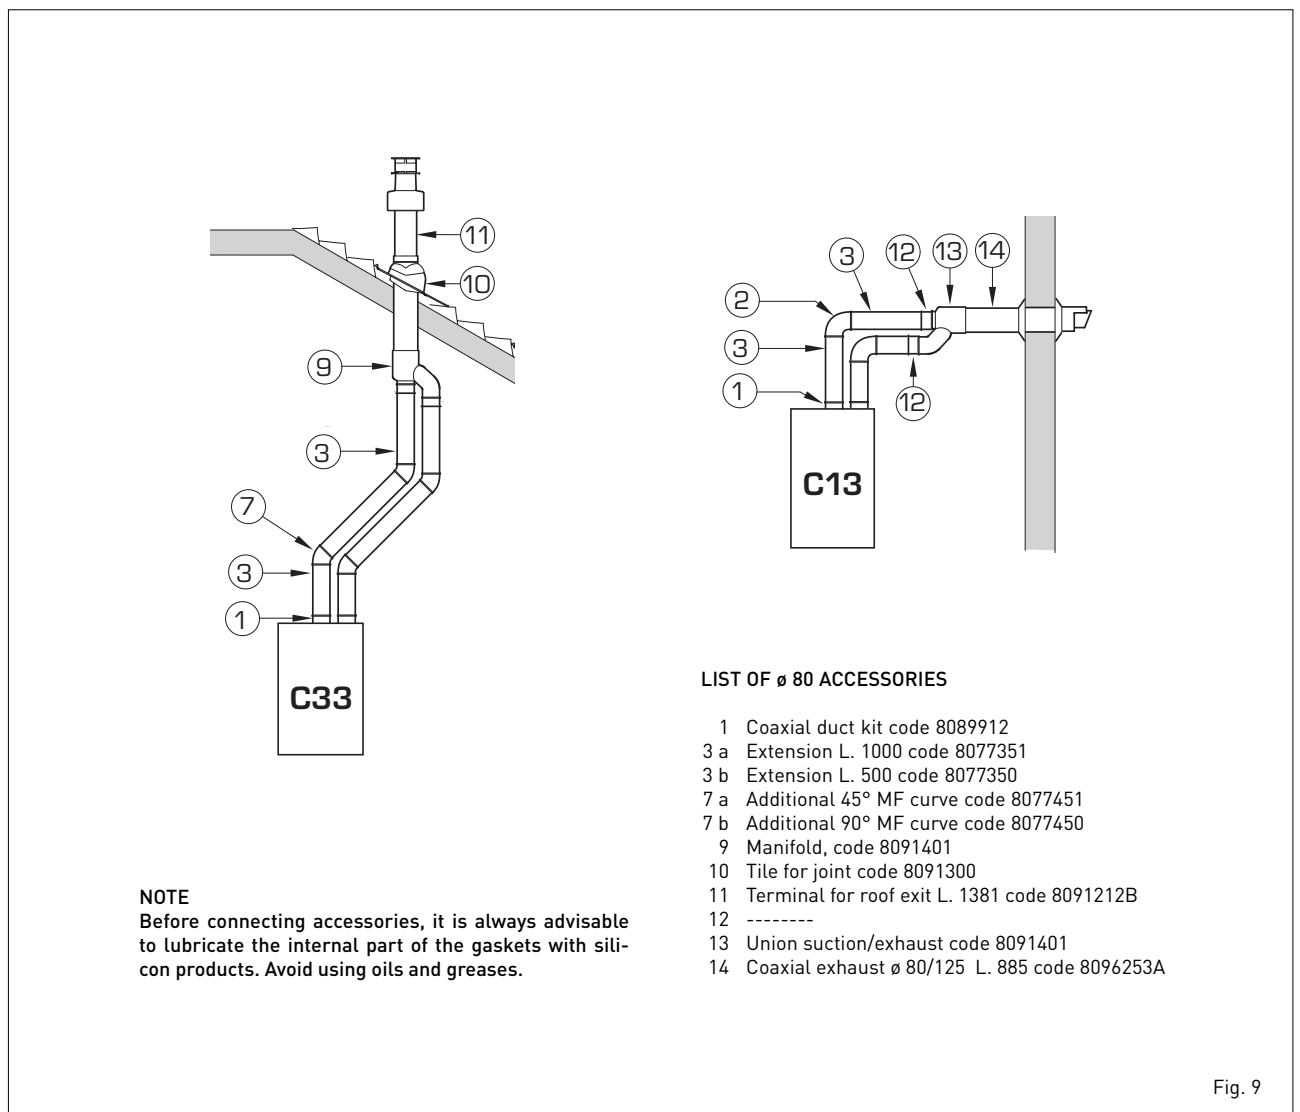

Fig. 9
2.7.1 Separate ducts kit (fig. 9)
The diagrams of fig. 9 show examples of